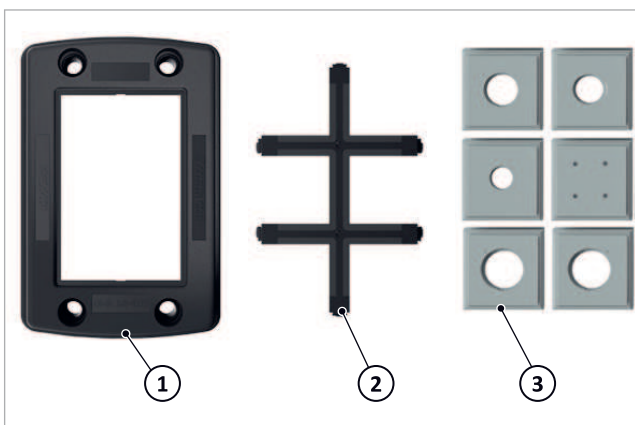

Fig. 75: Line lead-through system with oil line
3. Guide and connect the oil lines from the burner to the filter through the cutout section (1) in the base panel. If necessary, remove the inlay (see → fig. 75, page 30.) and insert it again.